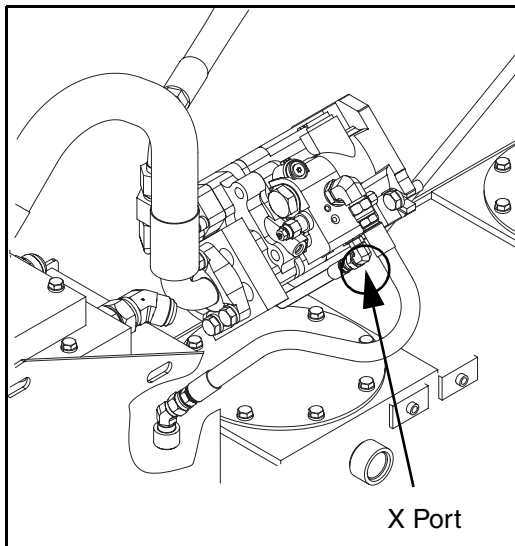

Figure 5 - 4 X Port - Tractor Generator Pump
- 2) Remove load sensor line from X port on pump. (Figure 5 - 4).
- 3) Add a jumper hose between ports X and M2 on pump (Figure 5 - 5).